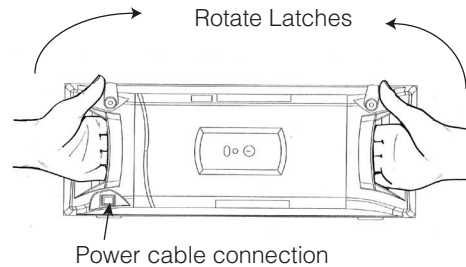

Fig. 3
4. Rotate the two latches and remove the door as shown in Figure 3. Place the door in a secure location.
Handle the door only by using the handles on the front of the door. Grasp the door by the handles as depicted in Figure 3 to remove and replace the door. Do not handle the door on the edges. Metal edges may be sharp and could result in injury if the door is not handled properly.